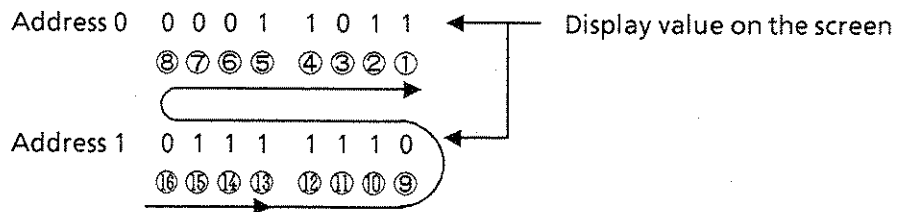

Fig. 6-14 Word Pattern Sending Order
Outputting the idle pattern and word pattern is performed starting from the LSB of the value displayed on the screen. For example, the word pattern is transmitted from the LSB bit of each address in order as shown in Fig. 6-14. (In the order from ① to ⑯.)